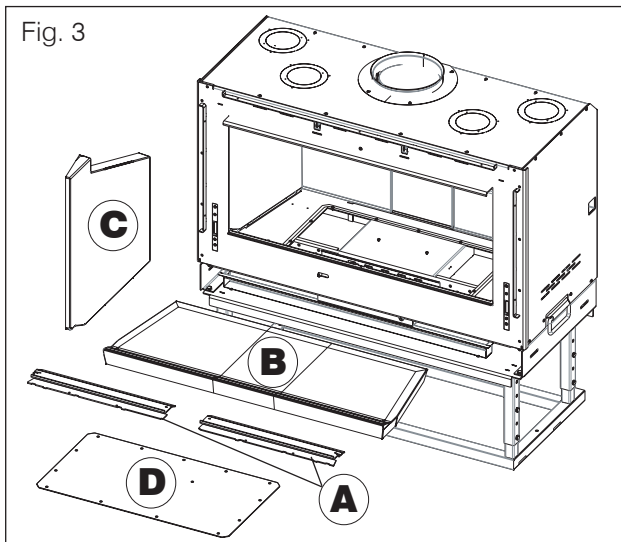

Fig. 3
- remove the two deflectors (A - Fig. 3), the top deflector, the sides (C - Fig. 3), the fire plane (B - Fig. 3).
- remove the screwed-in plate (D - Fig. 3) and the plate below (E - Fig. 4), also screwed-in, to access the compartment housing the thermostatic valve.